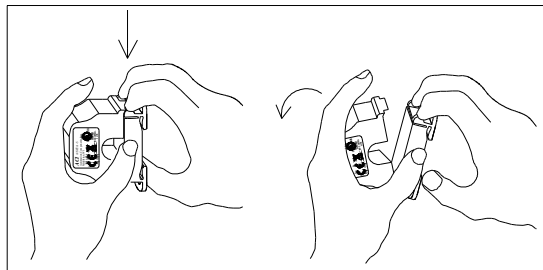
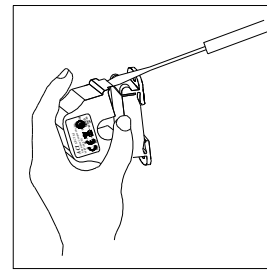

Figure 3: Opening Sensor by Hand
Figure 4: Opening w/ Screwdriver
Pressing down on the two (2) side tabs and swinging the cover open opens the split core current sensor as shown in **Figure 3** below. Lifting up on the latch with a flat-tip screwdriver as shown in **Figure 4** below can also open the unit. Press down firmly on the cover to close the current sensor. An audible "click" will be heard as the tab slides over the tongue on the base.